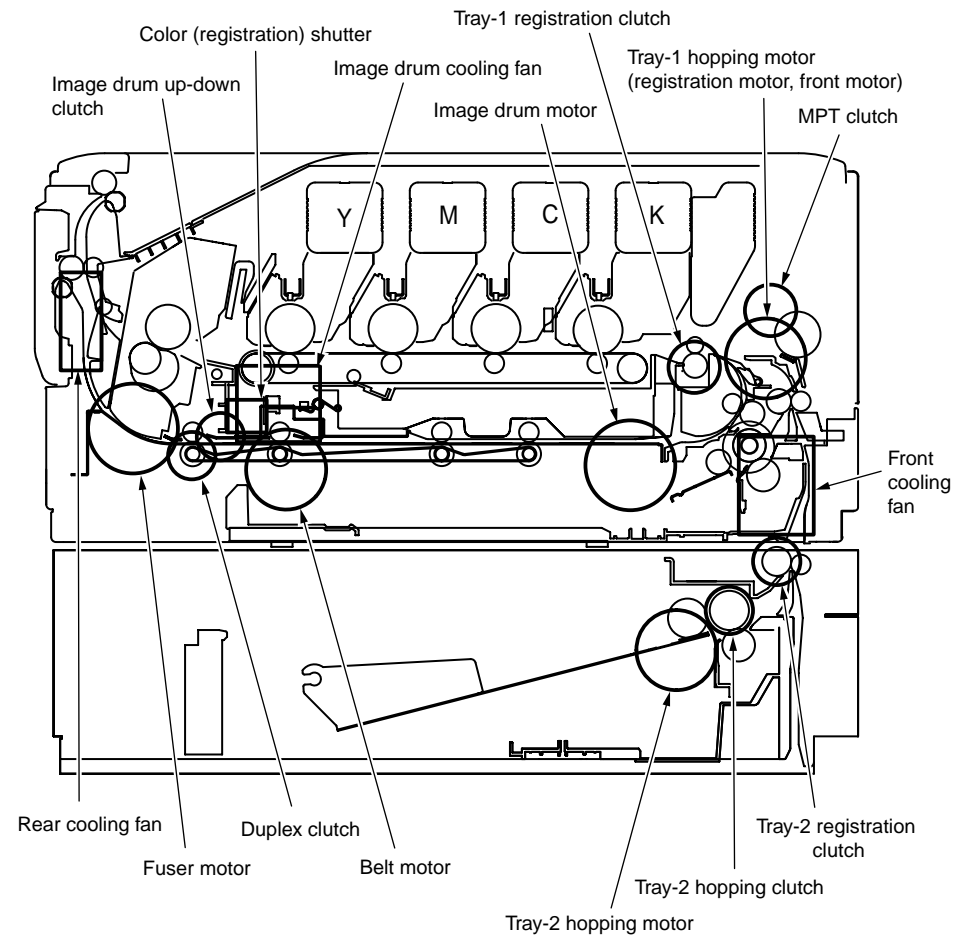

Figure 5-2
3. Press the OK button. The motor and clutch test starts, the unit's name starting to blink, and the unit being driven for 10 seconds (refer to figure 5-2).